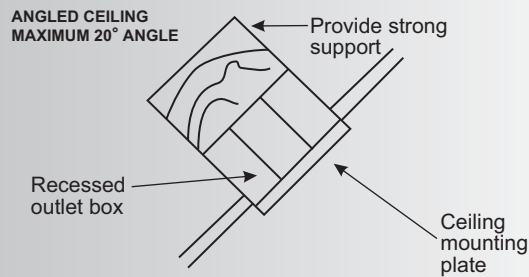
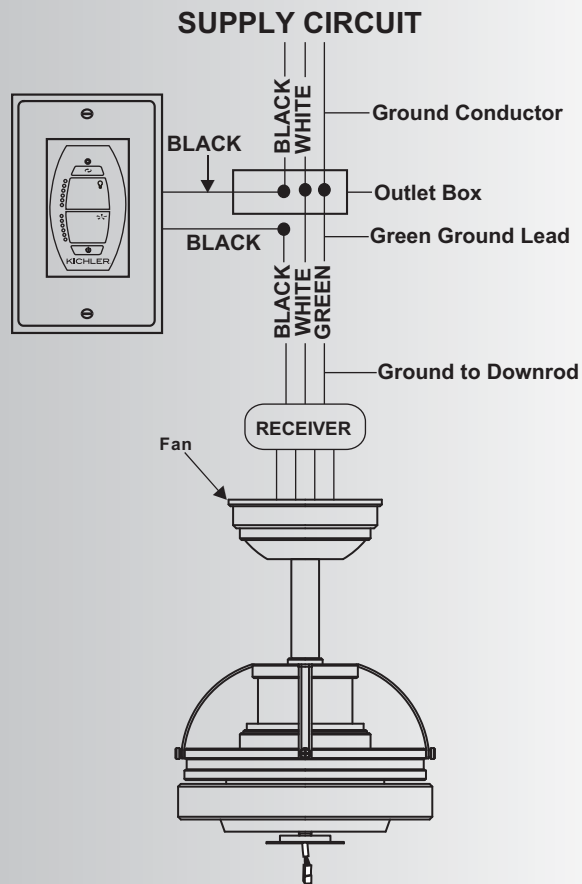

Fig. 3
Fig. 13
Make each of the wire connections illustrated in Figure 3. Secure each with the wire nuts provided. (Fig. 13)
Step 1. Black wire going to the fan (motor) to the Black wire from the Switch. (Fig. 13)
Step 2. In the Ceiling Outlet Box, connect the White (neutral) wire coming from the Fan to the White (neutral) wire from the Household Supply. (Fig. 13)
Step 3. Connect the Black (AC IN L) from the switch to the Black wire going to the Household Supply. (Fig. 13)
Step 4. If your ceiling outlet box has a ground wire (green or bare copper) connect it to the ground wire from the ceiling fan and/or the ceiling mounting bracket. (Fig. 13)